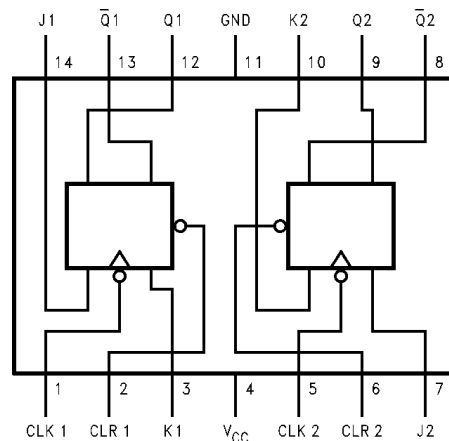

Figure 2—Pinout diagram for 7473 integrated circuit
- 3) Draw a complete circuit diagram, showing integrated circuit numbers and pin numbers. Your circuit will need combinational logic that produces J_1 , K_1 , J_0 , K_0 , and Y from Q_1 , Q_0 , and A . The pinout for the 7473 integrated circuit, which contains two JK flip-flops, is shown in Figure 2.